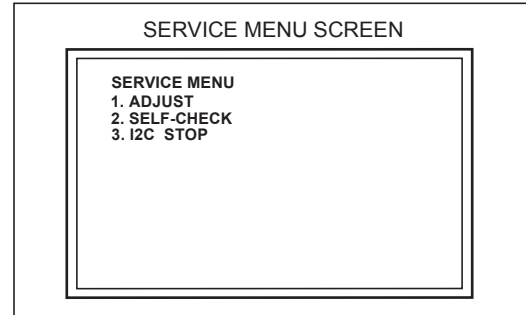

Fig.1
- 3) Verify what to set in the SERVICE MENU, and set whatever is necessary (Fig.1).